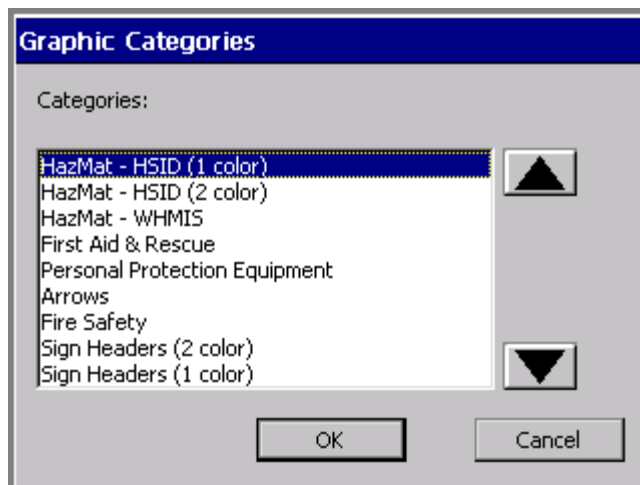

Figure 7-14. The Graphic Categories screen.
1. Choose **Change Category** on the **Graphics** screen. You'll see the **Graphic Categories** screen (Figure 7-14 on page 7-22) again, which lists all categories offered in your system.